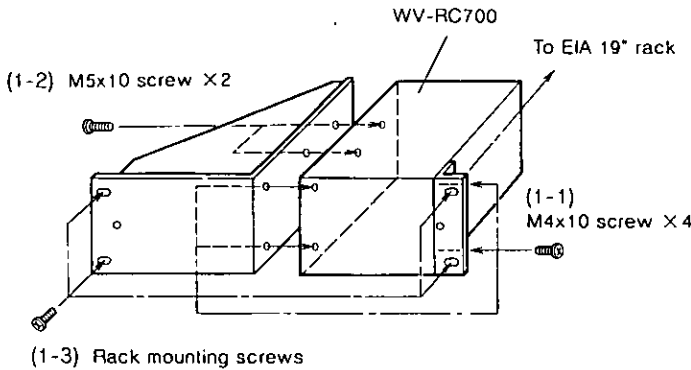

Fig. 1
- 1-1. Fix one Rack-mounting Angle (161) to the either side by using two screws (M4 × 10, provided).
- 1-2. Attach the Rack-mounting Spacer (162) to the Remote Control Unit by using four screws (Two M5 × 10 and two M4 × 10, provided).
- 1-3. Mount the Remote Control Unit onto the EIA 19" rack by using four rack mounting screws (not provided) as shown in Fig. 1.